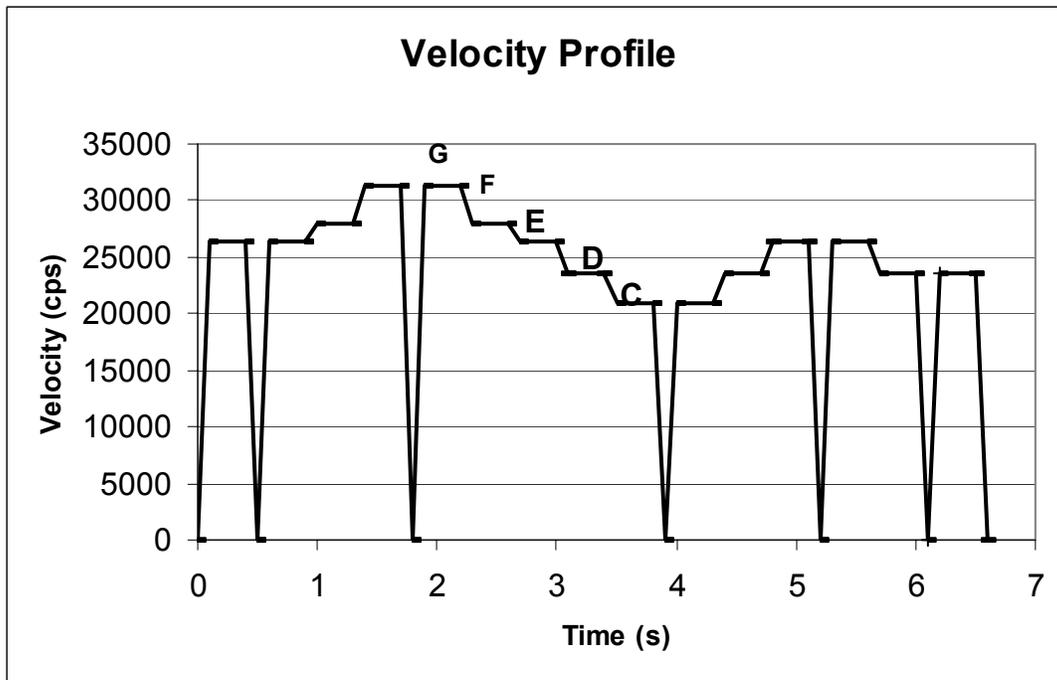

Figure 1: "Ode to Joy" Velocity Profile
As shown in Figure 1, each velocity segment corresponds to a musical note (C, D, E, F, or G). The actual velocities that correspond to musical notes are shown in Table 1. To find the number of individual velocity segments (21) that must be sent to the IMS operation, the entire profile is parsed up into segments that ramp and play notes, and segments that ramp to zero velocity (for pauses).